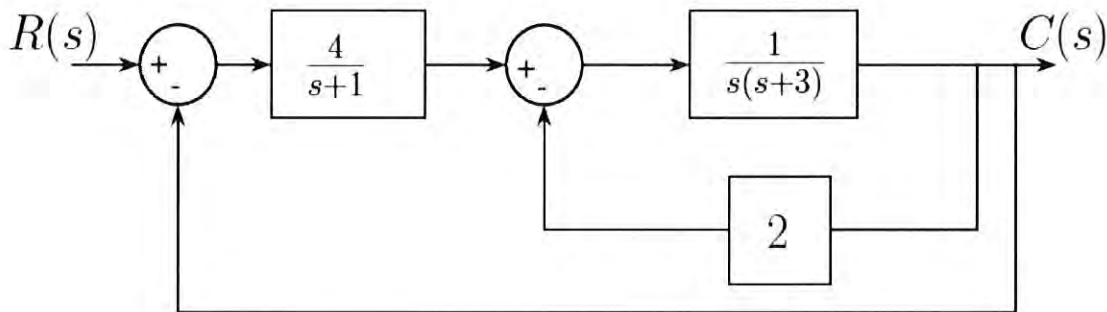

Figure 1
- b) Reduce the block diagram shown in Figure 1 to its canonical form. **(3 marks)**